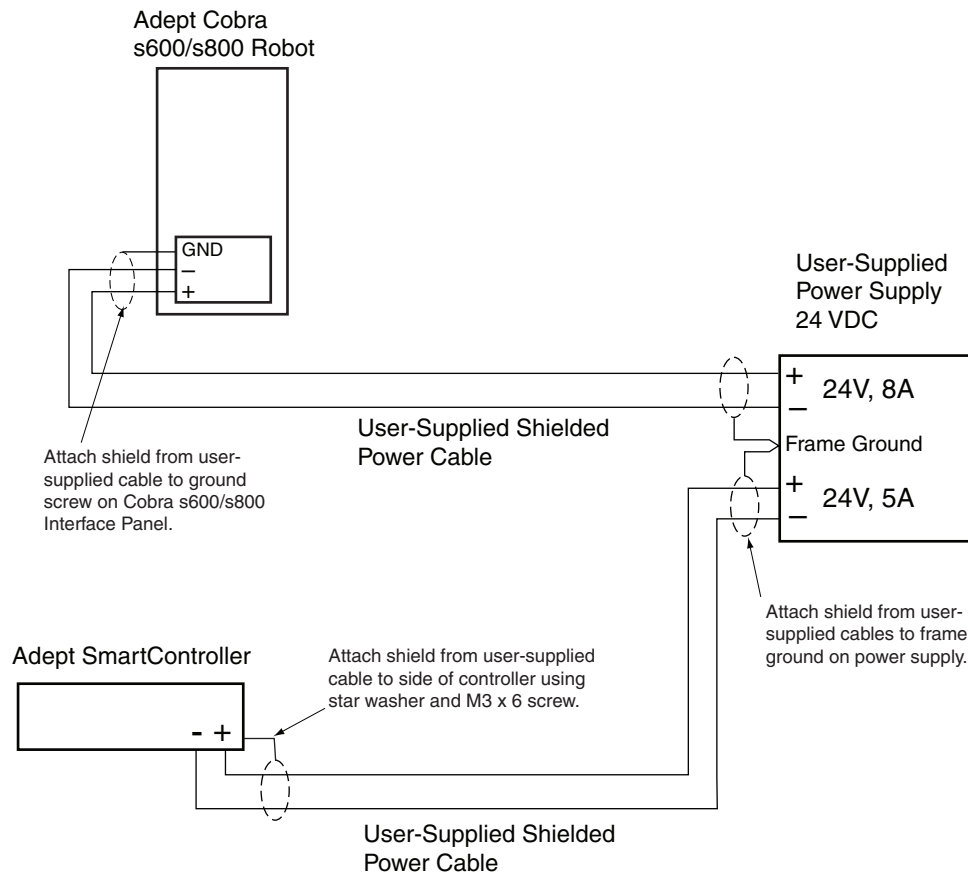

Figure 4-2. User-Supplied 24VDC Cable
Shield Termination	Braided shield connected to “-“ terminal at both ends of cable. See Figure 4-2 on page 45 .
1. Connect one end of the shielded 24 VDC cable to your user-supplied 24 VDC power supply. See Figure 4-2. The cable shield should be connected to frame ground on the power supply. Do not turn on the 24VDC power until instructed to do so in Chapter 5.